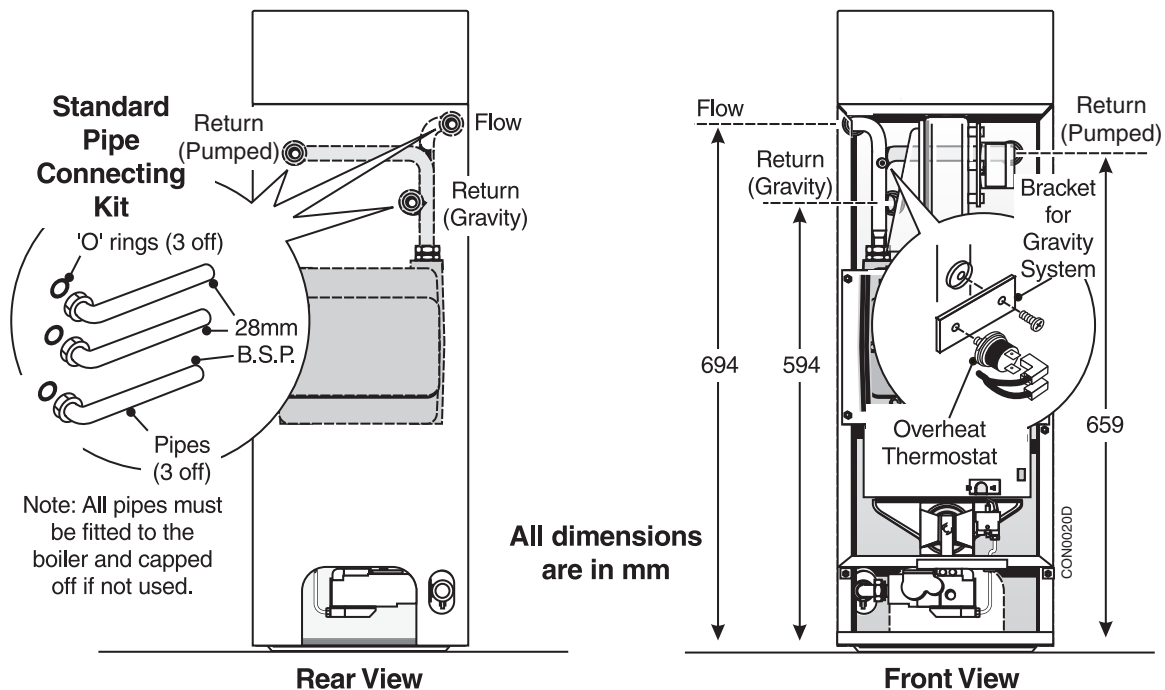

Fig. 19
1. On Gravity DHW systems check that the overheat thermostat is fitted correctly. See Fig. 19, page 19. ☐